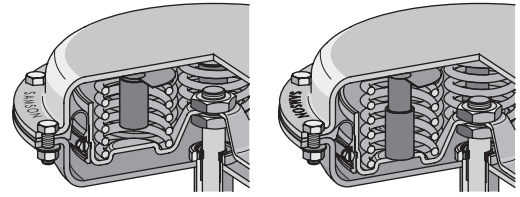

Fig. 11 · Fire-Lock version, in fail-safe position (right)
- **Type 3271/7** · **Fire-Lock version** (Fig. 11) fail-safe action in case of fire, diaphragm areas of 240, 350, 700 cm²